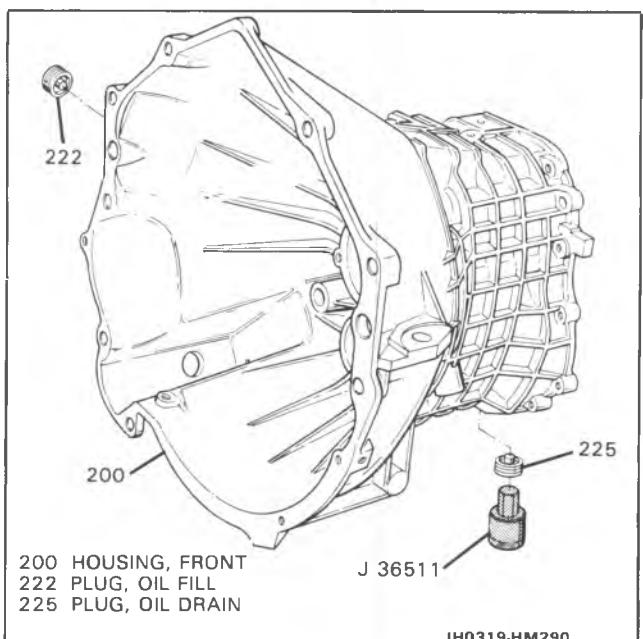

Figure 54 Removing Drain/Fill Plugs
13. Breather assembly (223).
14. Oil fill plug (222) and oil drain plug (225), using J 36511 (Figure 54).